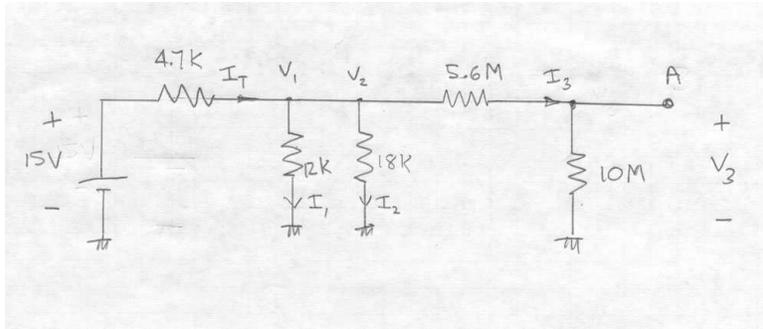

Figure 1: Circuit for Part 1.
Consider the circuit of Figure 1. Calculate the voltage values V_1 , V_2 and V_3 , and the current values I_1 , I_2 , I_3 and I_T .
6.1 Circuit in Fig. 1
In this experiment we will consider the circuit in Fig. 1.
- **(1 mark)** Construct the circuit in Fig. 1, and measure the values that you computed in the pre-lab. Is there any discrepancy? If so, explain.